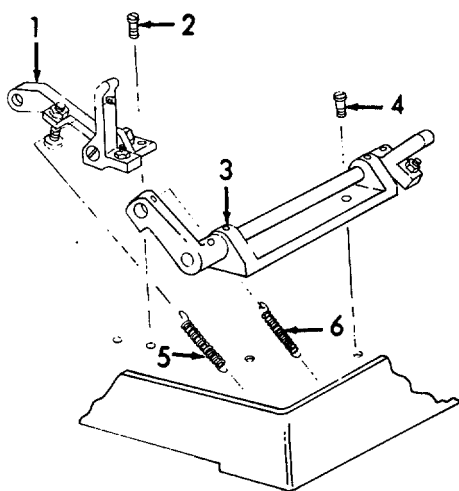

Figure 6-134. Foot Treadle Lever Assemblies, Installation.
- (1) Inspect for damaged hardware.
- (2) Inspect for broken spring.
- (3) Inspect for damaged lever.
e. Installation (Refer to Figure 6-134).